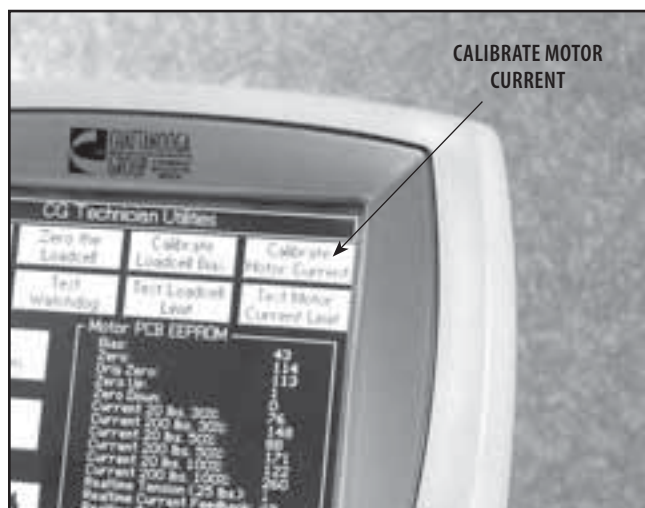

FIGURE 7.9
16. Press Calibrate Motor Current on the Touch Screen. See Figure 7.9.